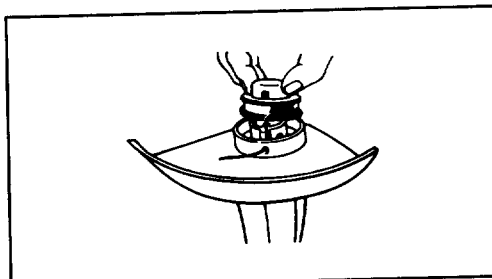

Figure 14
- D. The spool and the core are keyed. Be sure they are properly aligned when putting spool back on (Fig. 14). Thread end of line through eyelet, place spool on keyed core, and push in place until you hear it click (Figs. 14 & 15). Pull line free from groove in spool. Unwind no more than 3 inches from spool.